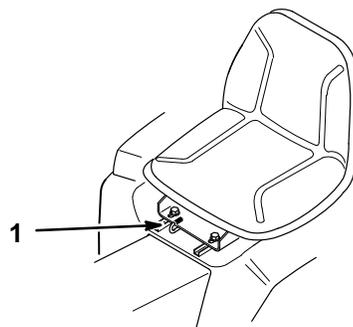

Figure 18
1. To adjust, move the lever sideways to unlock seat (Fig. 18).